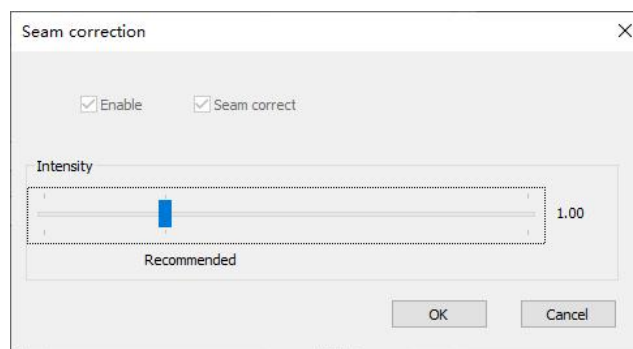

Fig.4-28 Seam correction (only) settings
**Note:** If you have selected **Seam correction (only)** before, you cannot perform the brightness/chroma calibration, and the seam correction function will be enabled by default. See Figure 4-28.